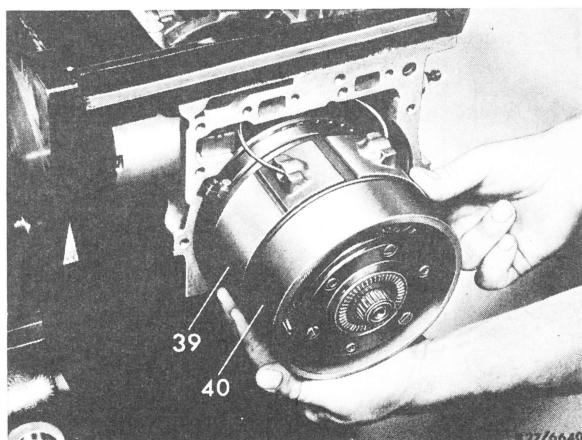

Fig. 52
**77** Clamp brake band B 1 (39) (smooth lining) with circlip for brake band piston cover B 2 on brake band drum (Fig. 52).
**78** Insert gear assembly (40) with brake band B 1 (39), while introducing the supporting lever for the oil feed sleeve in groove in transmission case (Fig. 52).